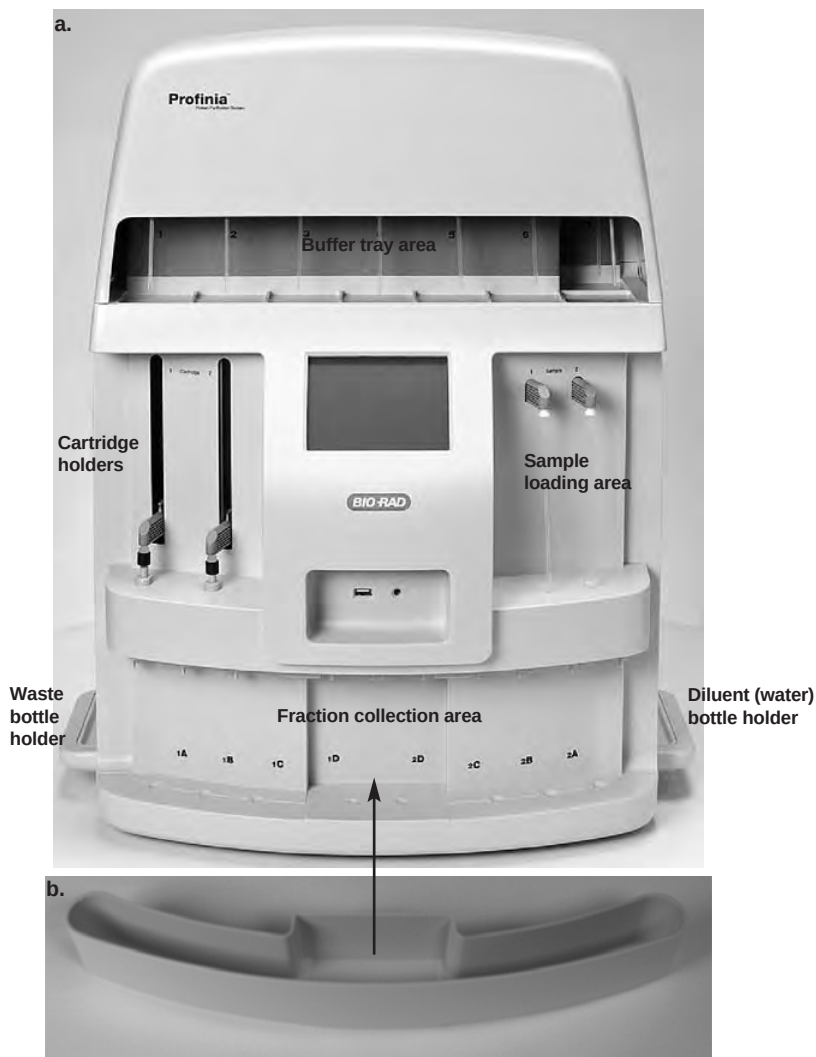

Fig. 2.6.a. Profinia system ports without bottles and tubes; 2.6.b. Profinia cleaning tray placement in the fraction collection area.
8. Place the cleaning tray in the fraction collection position (Figure 2.6).